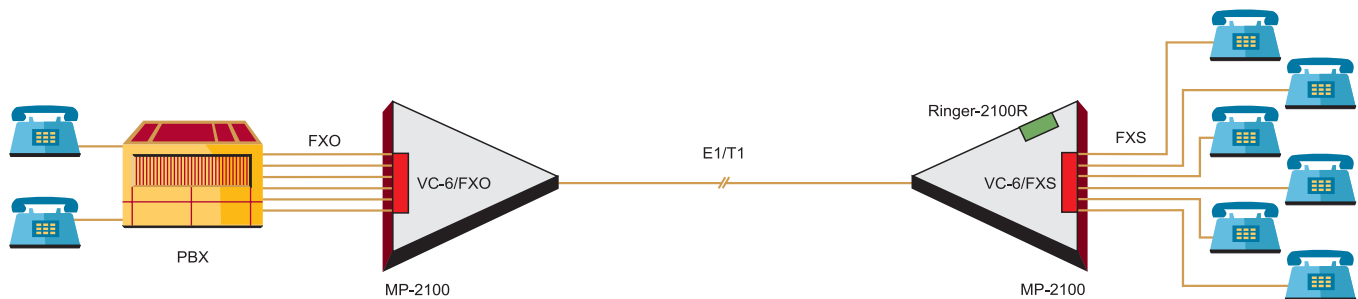

Figure 3. Typical OPX Application for VC-6/FXS and VC-6/FXO Modules
- Off-Premises Extension (OPX), where a local telephone on the PBX can be connected to an off-premises telephone, by dialing only an extension number assigned to the off-premises telephone (see *Figure 3*);